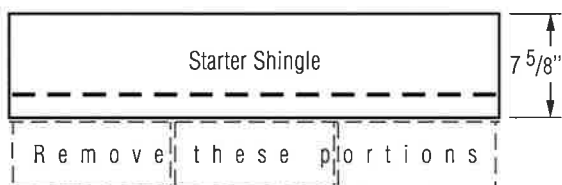

Figure 12-6: Make starter shingles that are 75/8" in height.
1. Use CertainTeed Swiftstart Starter, or three-tab self-sealing shingles with the lower tab portions removed. Be sure that the starter shingles are at least 75/8" in height. (Figure 12-6).